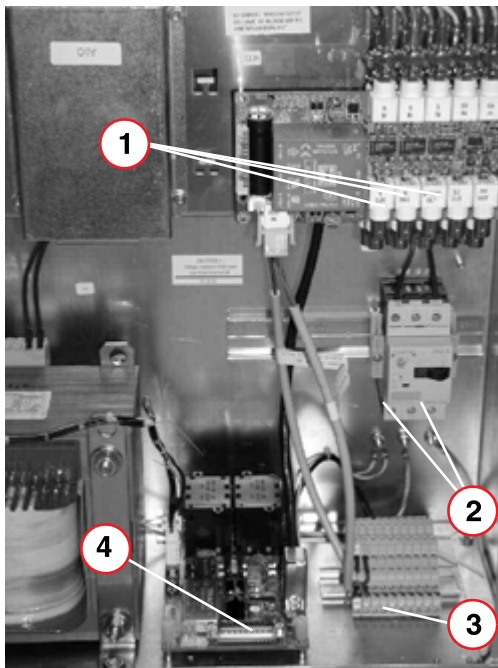

Fig. 59: *Imaging system container cabling*
- The back of monitor 1 is connected via a 3-m BNC/BNC monitor cable, which is provided in the imaging system container, to the BNC outputs at the video splitters (connections R OUT, B OUT, G BAS OUT) (Fig. 59 / p. 54). The live monitor is connected to the front video splitter and the reference monitor is connected to the back splitter.